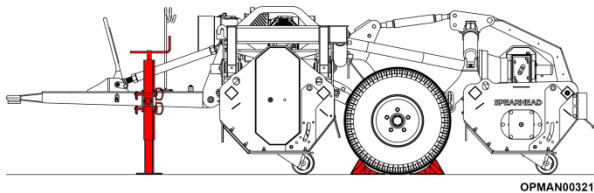

Figure 5.51
5.6.2.4 Fully support the centre chassis and cowls of the machine with fixed stands or substantial blocks; see Figure 5.51.